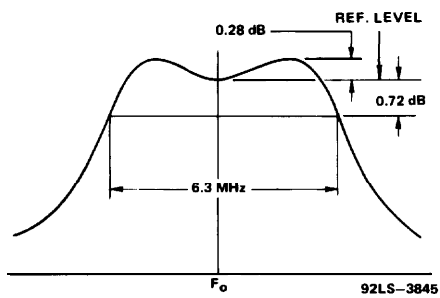

Figure 2 - Bandwidth Calculation
The maximum voltage ratings must be modified for operation at altitudes higher than sea level and for temperatures in excess of 20° C in accordance with the curves of **Figure 2**.
15. The bandwidth of 6.3 MHz is calculated at the -0.72 dB power points of a double tuned output circuit using two times the tube output capacity and a damping factor of  $\sqrt{1.5}$  as shown in **Figure 2**.